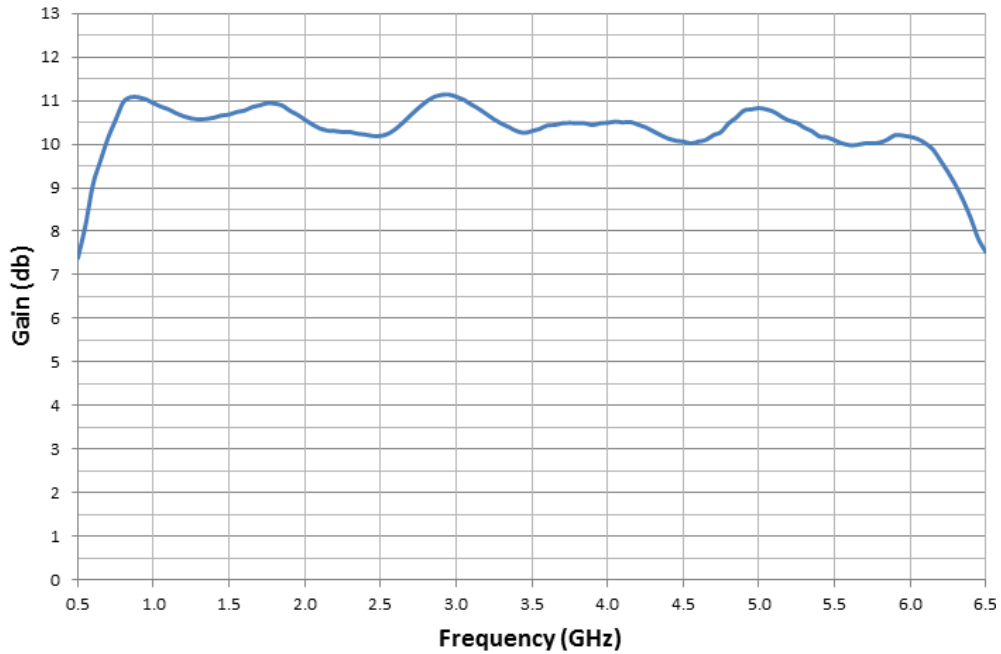

Figure 4-2. Typical Gain Response from the A3 Quad Amplifier Input to the Main RF Output
- With the W3 cable disconnected from the input of A3, check the response from the input of A3 to the Main RF output of the amplifier. Typical A3 Quad Amp Response is shown in Figure 4-2.